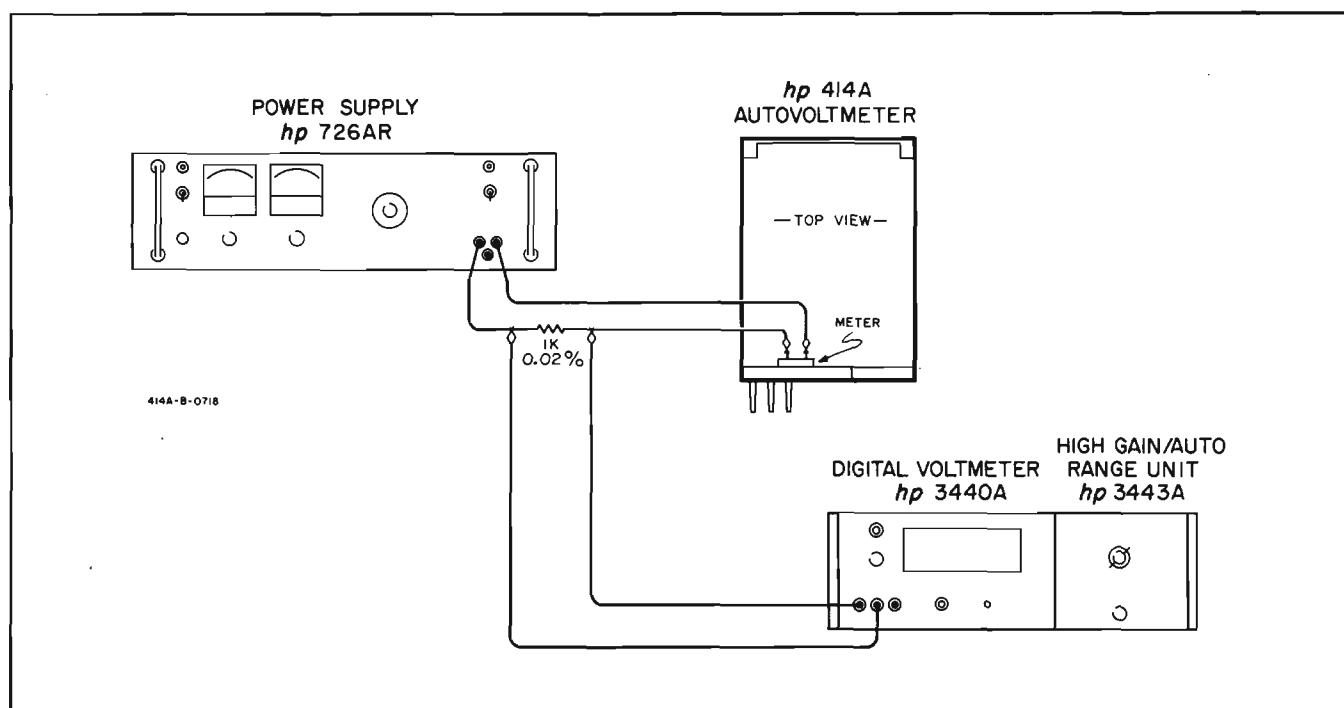

Figure 5-5. Meter Current Adjustment
- b. Connect test equipment to 414A meter terminals as shown in Figure 5-5.